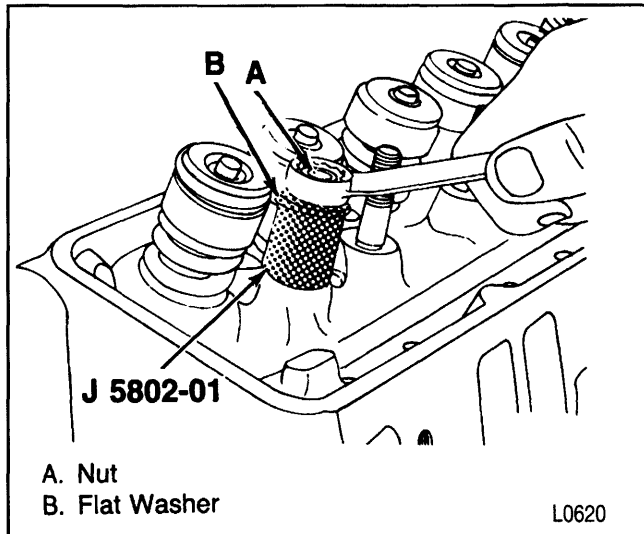

Figure 16—Removing the Rocker Arm Stud
↔ Remove or Disconnect (Figure 16)
- C. Turn the nut to remove the stud (figure 16).